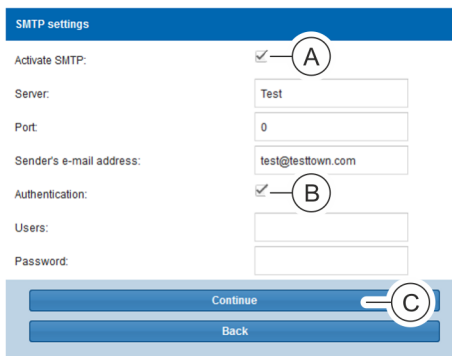

Fig. 60: "SMTP settings" window
- 22. If required, click the 'Activate SMTP' checkbox (Fig. 60/Ⓐ) and enter a server address, a port and a sender's e-mail address.
- 23. If required, activate the 'Authentication' checkbox (Fig. 60/Ⓑ) and define a user and password.
- 24. Confirm the entries by clicking the 'Continue' button (Fig. 60/Ⓒ).